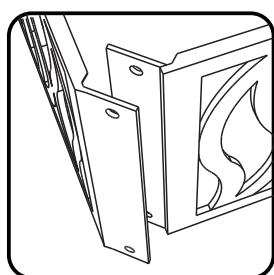

Figure 1
Attach Legs (B) to Stretchers (C) with Flat Washers, Spring Washers and Nuts, tightening Nuts only halfway. (See Figures 1 and 2)